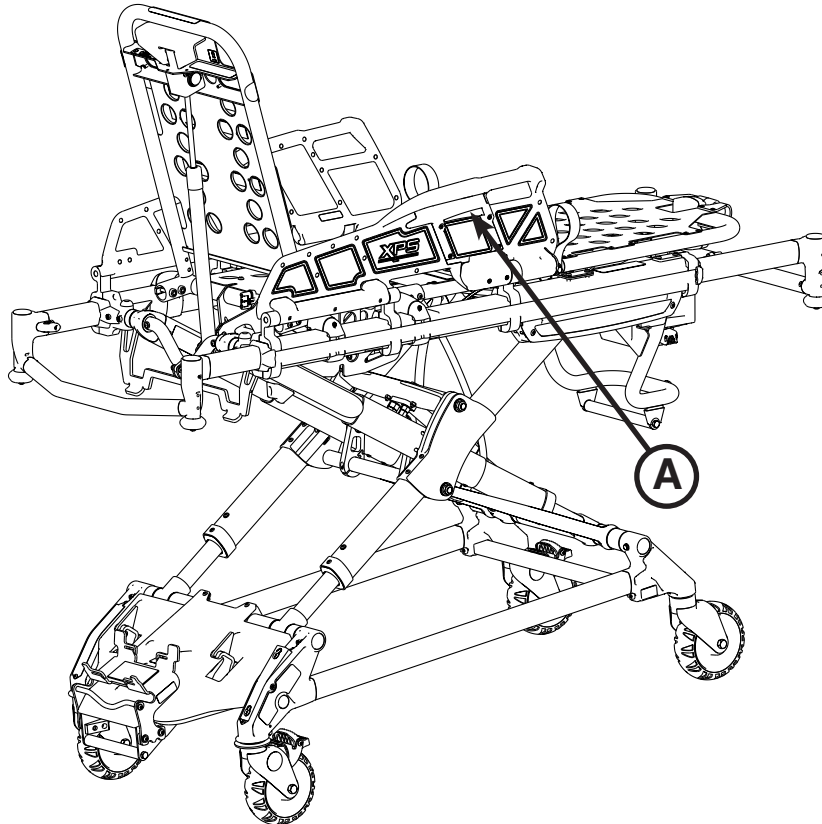

Figure 21
To lower the siderails, lift up to relieve the weight, then pull the red lever (A) (Figure 21).